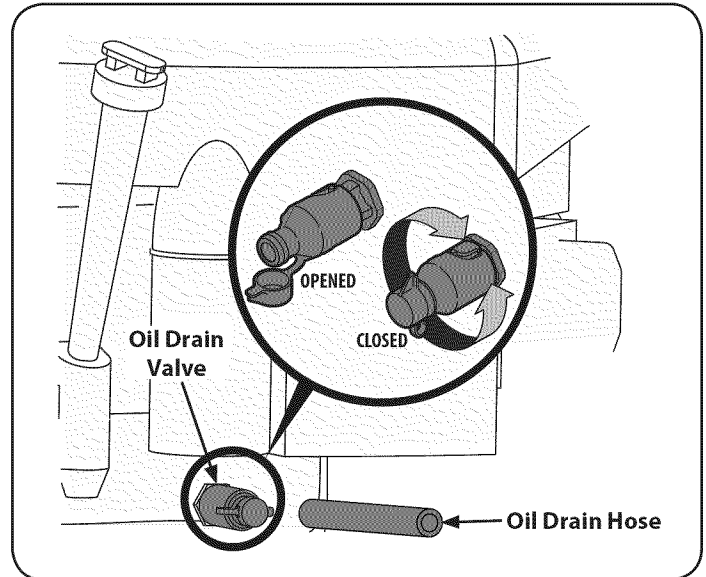

Figure 22
2. Locate the oil drain valve on the left side of the engine. See Figure 22.
3. Pop open the protective cap on the end of the oil drain valve to expose the drain port. Refer to Figure 22. Remove the oil fill cap/dipstick from the oil fill tube.